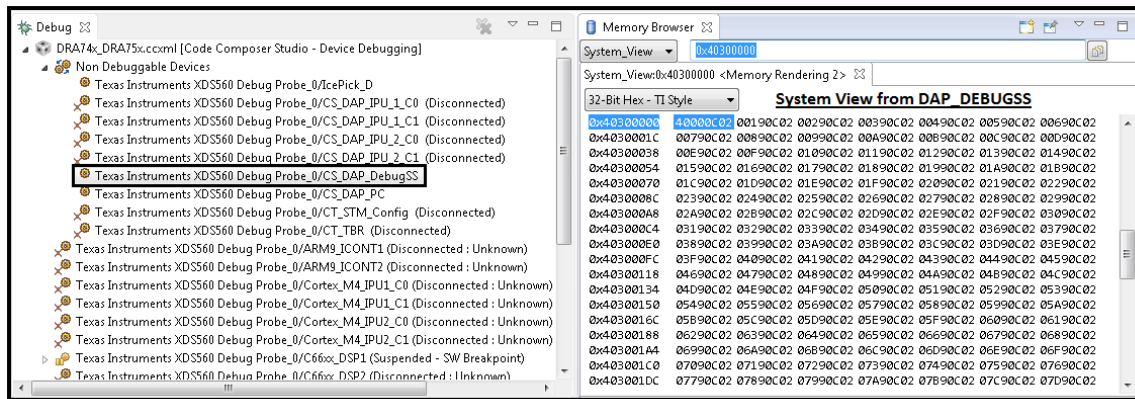

Figure 14. DAP Debug SS Memory View
4. Memory view may be changed to APB view from the memory windows. Figure 14 shows the DAP debug SS memory view.